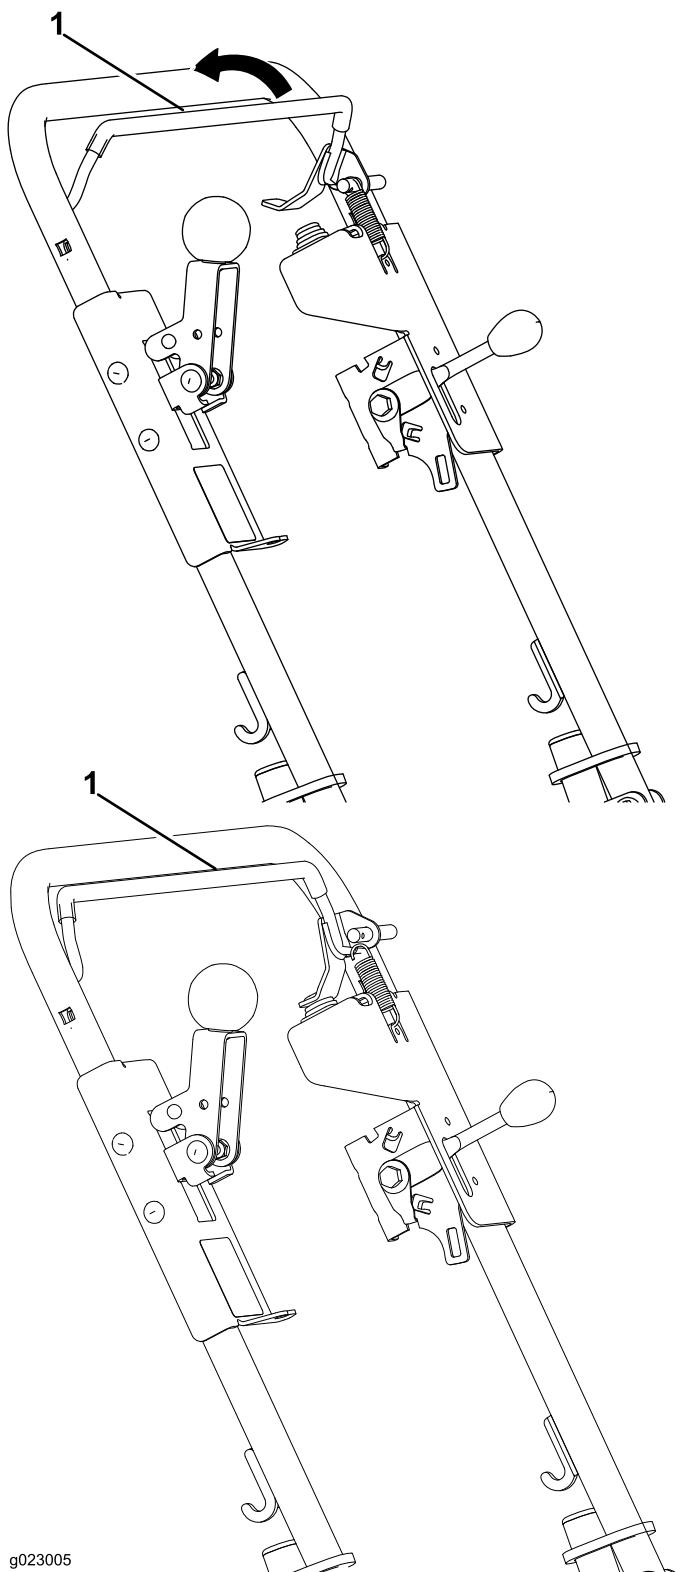

Figure 8
- To start the machine, hold down the operator presence bail (Figure 8). Continue to hold down the operator presence bail to allow the machine to run.